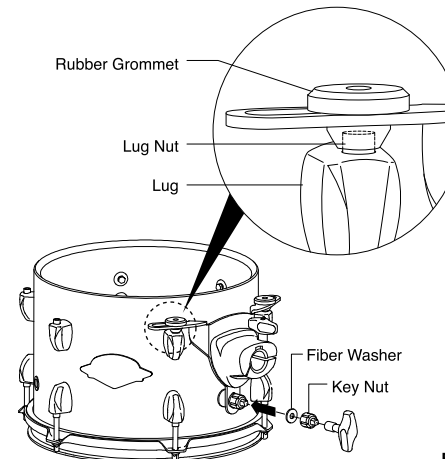

Fig. 5
5. Attach the Opti-Loc as shown. Make sure that the Rubber Grommets and the Lug Nuts are aligned and fitted as shown. Secure the bottom leg of the Opti-Loc to the Rubber Isolator with the Fiber Washer and Key Nut as shown (Fig. 5). Do not overtighten the Key Nut.